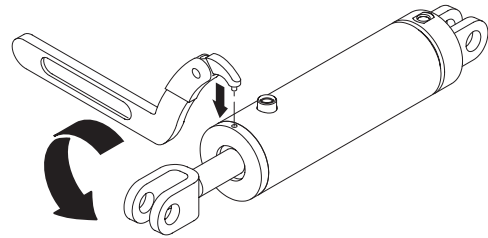

Figure 4-7, Cylinder Rebuild
3. Use a spanner wrench or similar tool to unscrew the gland cap from the cylinder tube. (Figure 4-7)